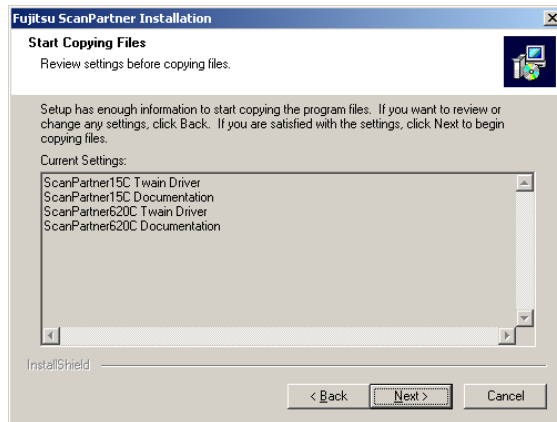

Figure 34. Copying Files
- 5 Click **Next** again and the installation will start as shown in Figure 34.